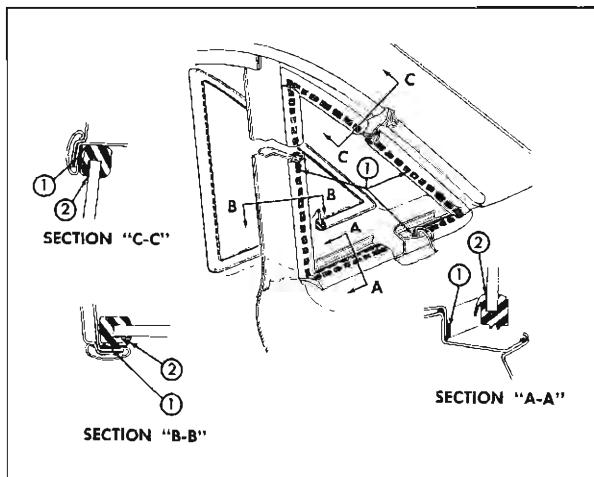

Fig. 13-9 Rear Quarter Window Sealing
old sealer from rubber channel and window opening rabbet. Install rubber channel to window. Apply a bead of medium-bodied sealer to wall of window opening rabbet, completely around window opening to effect a seal between body and rubber channel ("1" in Fig. 13-9 for "19" style, and Fig. 13-10 for "35" style).
4. Position window assembly into opening and loosely install window retainers. Using a pressure type applicator, apply weatherstrip adhesive (black) between rubber channel and outside surface of glass ("2" in Fig. 13-9 for "19" style and Fig. 13-10 for "35" style).